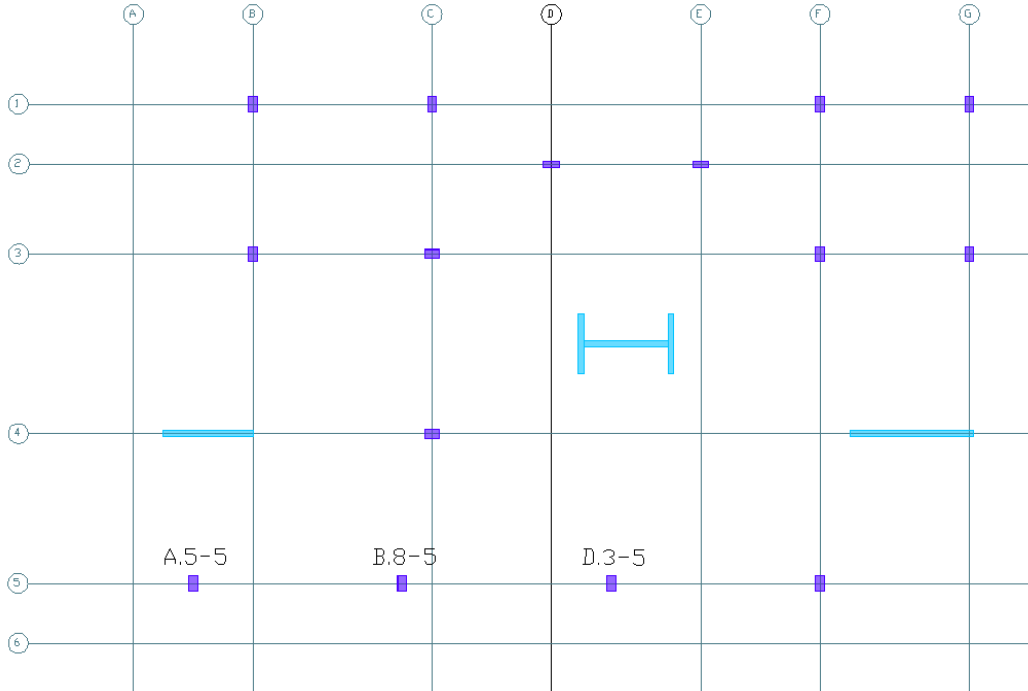

FIGURE 15-4
- **FIGURE 15-4** shows the grid layout with walls and columns. The column labels will be changed from the default values to the Grid location. Note there are 3 columns located off the main grid. These are A.5-5, B.8-5 and D.3-5.